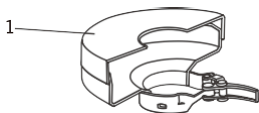

Fig. 2A
⚠️ WARNING: The metal cutting disc guard (Fig. 2A) **MUST** be installed whenever a metal cutting disc is installed on the tool.
The metal cutting disc guard included with this tool is the same as the grinding disc guard with one exception. It has an additional “web” (1) on the bottom of the guard to protect the operator from sparks generated when cutting metal (Fig. 2A).